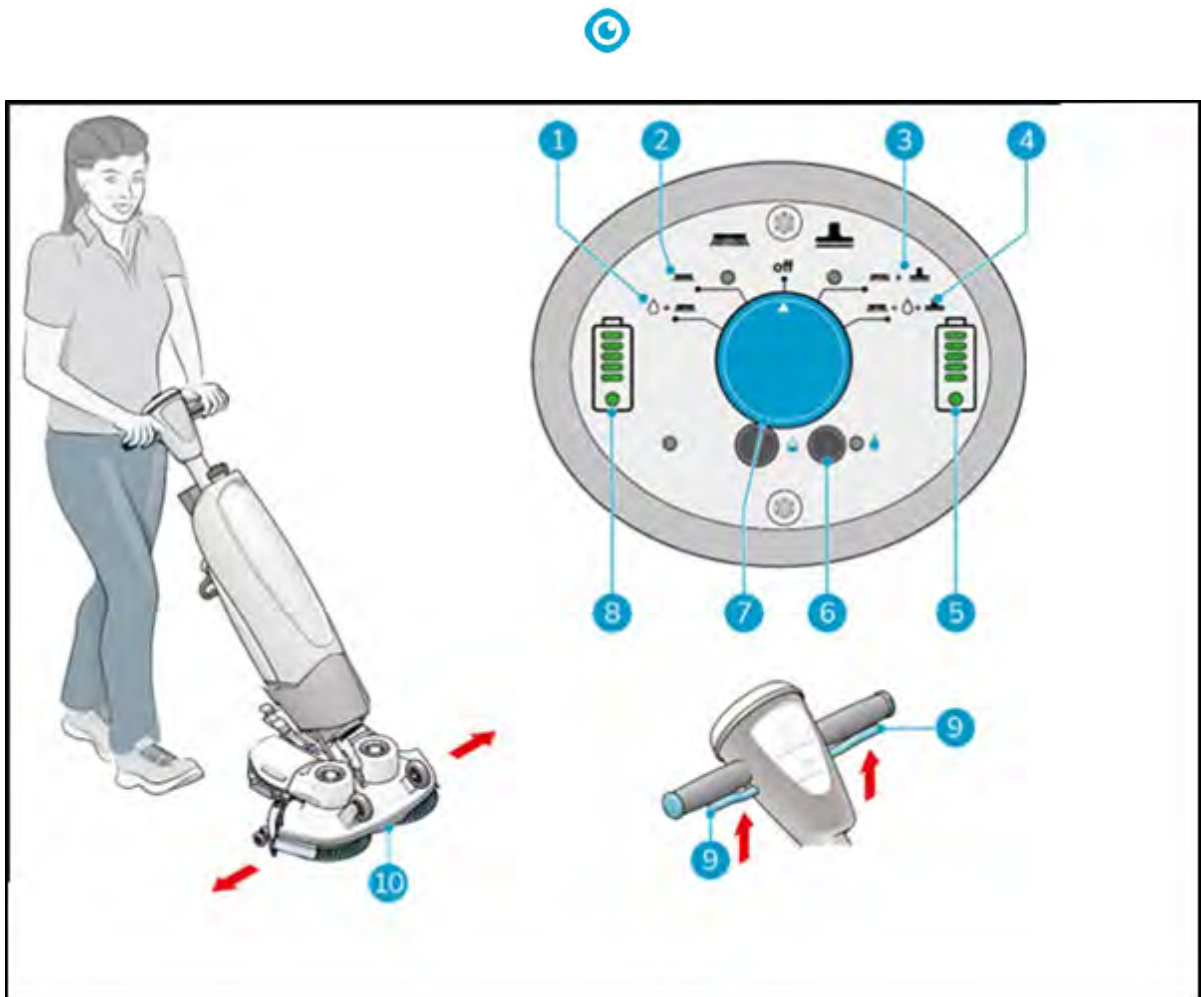

Figure 20
4. Stand behind the i-mop® XL Pro. Choose your cleaning mode via the main switch (Figure 20, pos. 7). This will also turn on the i-mop XL Pro.
- MODE 1: Brush + water/cleaning solution (Figure 20, pos. 1).
- MODE 2: Brush only (Figure 20, pos. 2).
- MODE 3: Brush + vacuum (Figure 20, pos. 3).
- MODE 4: Brush + water/cleaning solution + vacuum (Figure 20, pos. 4).
6. Squeeze the trigger on the handle (Figure 20, pos. 9).
9. Steer by gently turning the handle left or right to move the scrub deck (Figure 20, pos. 10).
10. Releasing the trigger (Figure 20, pos. 9) will immediately stop the i-mop XL Pro. The vacuum motor will stop after 3 seconds.